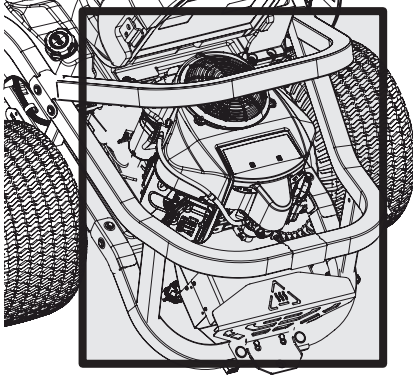

Figure 29
- Keep both sides of transmission cooling slots, exhaust manifold, around fuses, all wiring and harnesses, muffler pipe, muffler shield, engine intake screens and cooling fins, etc., clear of grass clippings and leaves (Figure 29).